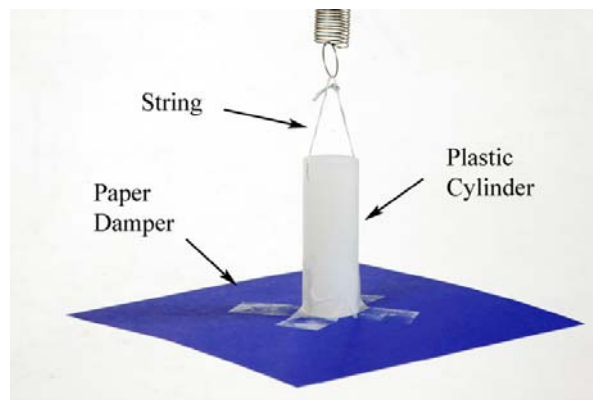

Figure 2: Adding the Damping
6. Tape the plastic cylinder to the center of the square as shown in Figure 2.